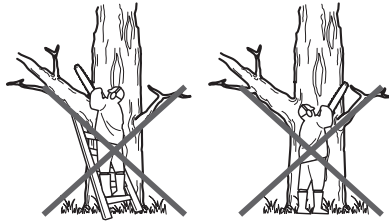

Fig. 22
6. Reset the spiked bumper (4) at a low point when cutting thicker logs by pulling the product slightly backwards until the gripping teeth release, and reposition at lower level to continue sawing. Do not remove the product completely from the wood.
8. Do not operate the product with arms fully extended or attempt to saw areas which are difficult to reach, or on a ladder. Never use the product above shoulder height (Fig. 22).